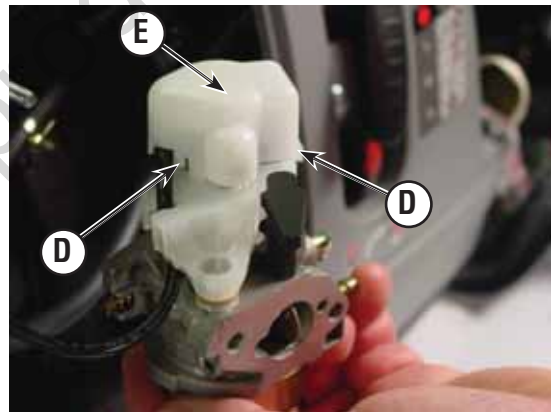

Figure 40
1. Release the locking tabs (D, Figure 40) to remove the stepper motor cover (E). Set cover aside.